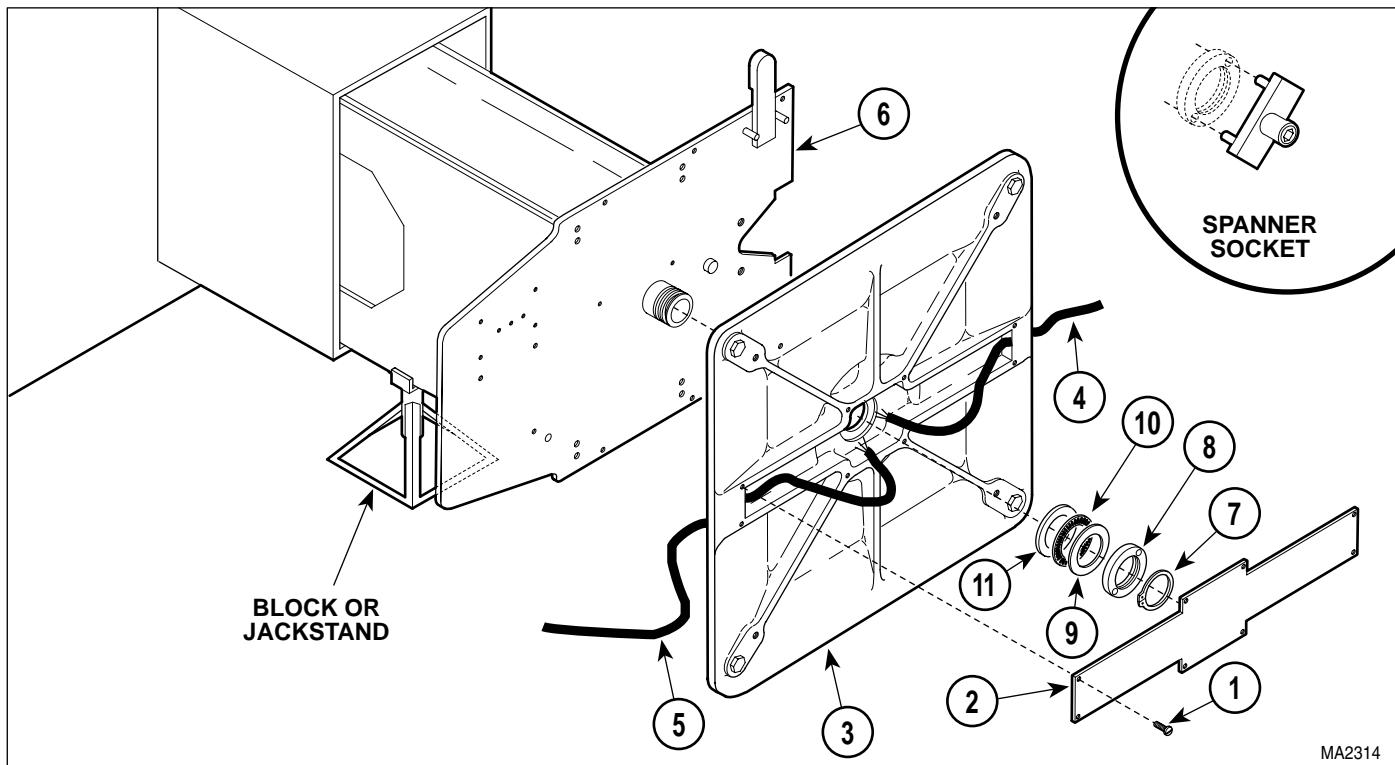

Figure 4-39. Rotational Base Removal / Installation
- (14) With help of an assistant, lay table onto its left (patients left) side and block base of table off of floor by putting a block/jackstand under base slide assembly. See Figure 4-39.
- (15) Remove eight screws (1, Figure 4-39) and cable cover (2) from rotational base (3).
- (16) Pull wire harnesses (4 and 5) out thru bottom of platform base weldment (6).
- (17) Remove retaining ring (7) from platform base weldment(6).
- (5) Install table rotation bearing (2) and rotation stop plate (3) on rotational base (4), making sure stop plate post (6) goes thru rotation stop plate to hold rotation stop plate in position.
- (6) Coat threads of two screws (1) with removable threadlocking adhesive (Loctite 242).
- (7) Secure table rotation bearing (2) with two screws (1).
- (8) Coat mating surfaces of thick bearing washer (11, Figure 4-39), thrust bearing (10) and thin bearing washer (9) with high temperature grease.
- (9) Coat threads of rotation nut (8) with removable threadlocking adhesive (Loctite 242).